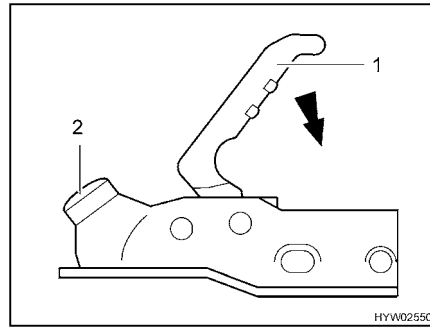

Fig. 1 AK 300/160 caravan coupling
- Place the open caravan coupling (Fig. 1) on the towing vehicle caravan ball. The caravan coupling now locks automatically and audibly in place. The handle glides automatically back to its initial position.
- In addition, push the coupling handle (Fig. 1,1) down with your hand (not with your foot). Closing and securing is carried out automatically.
- Conduct a visual inspection: The green cylinder on the safety indicator (Fig. 1,2) must be visible.